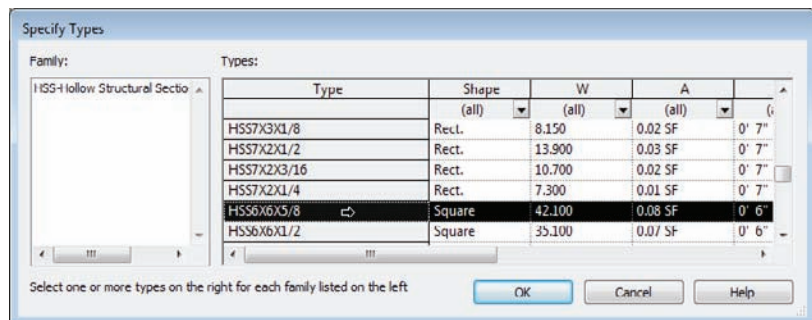

FIGURE 8.23 Select HSS-Hollow Structural Section-Column.rfa and choose the HSS6x6x5/8 (HSS152.4x152.4x12.7) type.
7. Double-click HSS-Hollow Structural Section-Column.rfa (or M_HSS-Hollow Structural Column.rfa). You will see a dialog box enabling you to select the type, as shown in Figure 8.23.